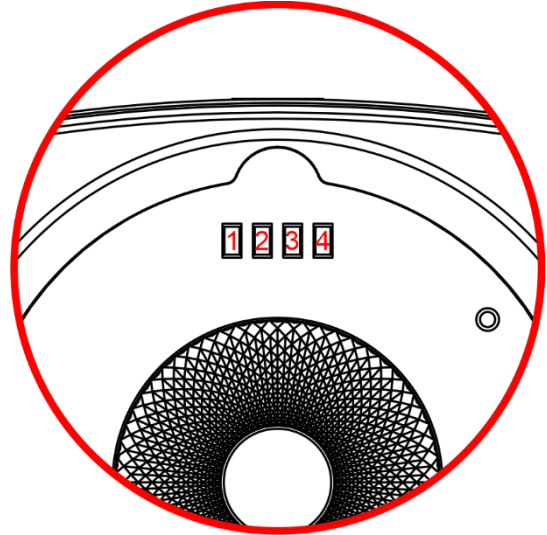

Fig. 03
- 01) Battery indicator LEDs (See Fig. 03 for the numbering of the LEDs)